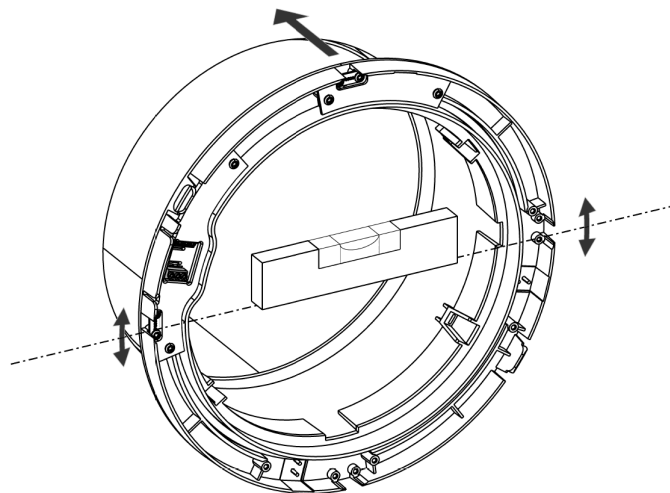

Figure 19 - Mounting of internal wall cover
While holding the 4 strips from the outside hood back, the wall cover's collar is inserted into the wall and the Ø250 mm tube (4). Press the wall cover against the wall and make sure it is level, see Figure 19 below. Any excess sealant is wiped off.